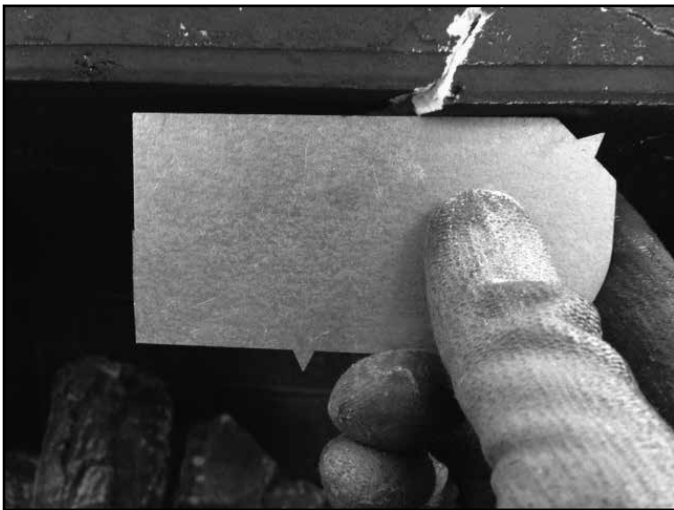

Figure 11.1 Surface plane of firebox is compromised and should be replaced.
- Cracks compromising the surface plane of the firebox. See Figure 11.1.